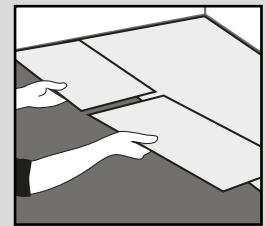
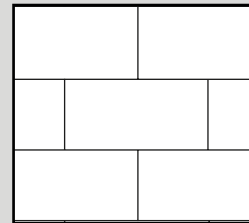
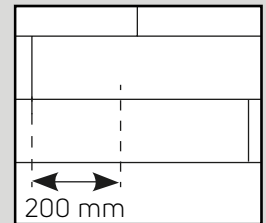

Fig. 4a
Fig. 5a
Fig. 5b
Such that four corners never meet. Refer to installation Fig.5a / 5b.
- Install the next plank/tile by lifting the edge of the previous plank easing the tongue and groove together on the end joint, then slide in the long side which can then be tapped into position with an "off cut of material" or tapping block. (Fig. 4a, 4b & 4c). Tiles and planks should be installed "off-set" such that their four corners never meet (Fig. 5a and Fig. 5b).